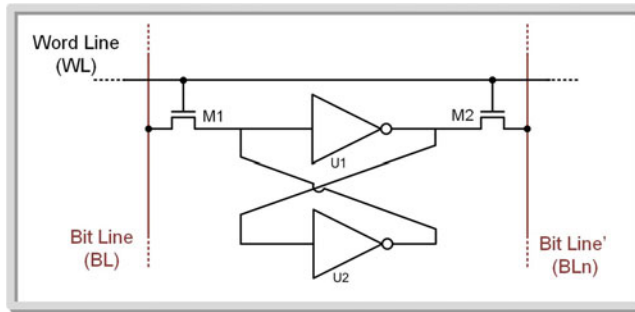

Fig. 2.47
Static Random Access Memory (SRAM) is a semiconductor technology that stores information using a cross-coupled inverter feedback loop. Figure 2.47 shows the schematic for the basic SRAM storage cell. In this configuration, two access transistors (M1 and M2) are used to read and write from the storage cell. The cell has two complementary ports called bit line (BL) and bit line' (BLn). Due to the inverting functionality of the feedback loop, these two ports will always be the complement of each other. This behavior is advantageous because the two lines can be compared to each other to determine the data value. This allows the voltage levels used in the cell to be lowered while still being able to detect the stored data value. Word lines are used to control the access transistors. This storage element takes six CMOS transistors to implement and is often called a 6T configuration. The advantage of this memory cell is that it has very fast performance compared to other sub-systems because of its underlying technology being simple CMOS transistors. SRAM is volatile memory because when the power is removed, the cross-coupled inverters are not able to drive the feedback loop and the data is lost. SRAM is also read/write memory because the storage cells can be easily read from or written to during normal operation. SRAM cells are commonly implemented on the same IC substrate as the rest of the system, thus allowing a fully integrated system to be realized. SRAM cells are used for cache memory in computer systems.